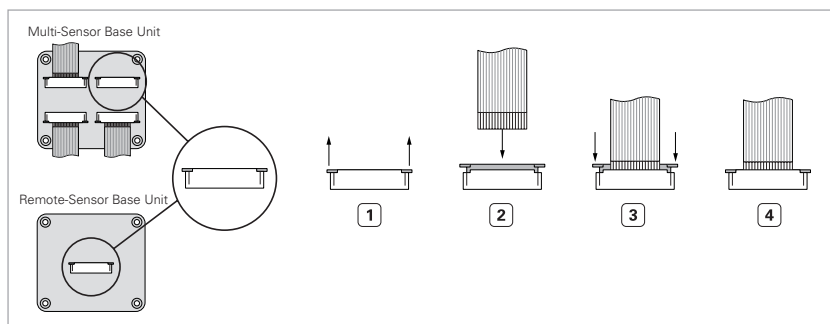

Fig. 9: Connecting the flex-foil cable to the base unit
1. Pull out the lock of the connector on the base unit (➡ Fig. 9 on page 17).